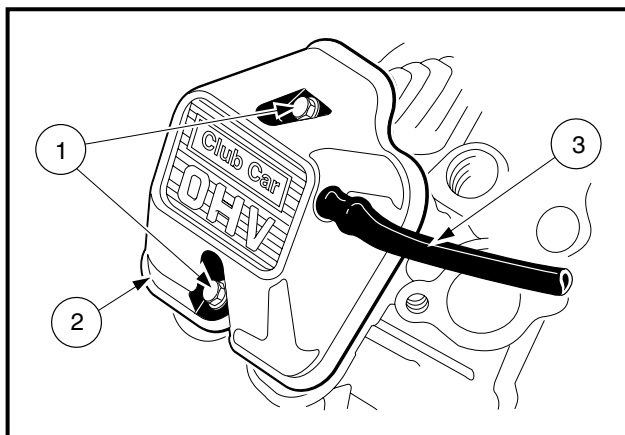

Figure 2-5 Rocker Cover Removal
1. Remove the two bolts (1) and remove the rocker cover (2) along with breather tube (3) (**Figure 2-5, Page 2-7**). See following NOTE.